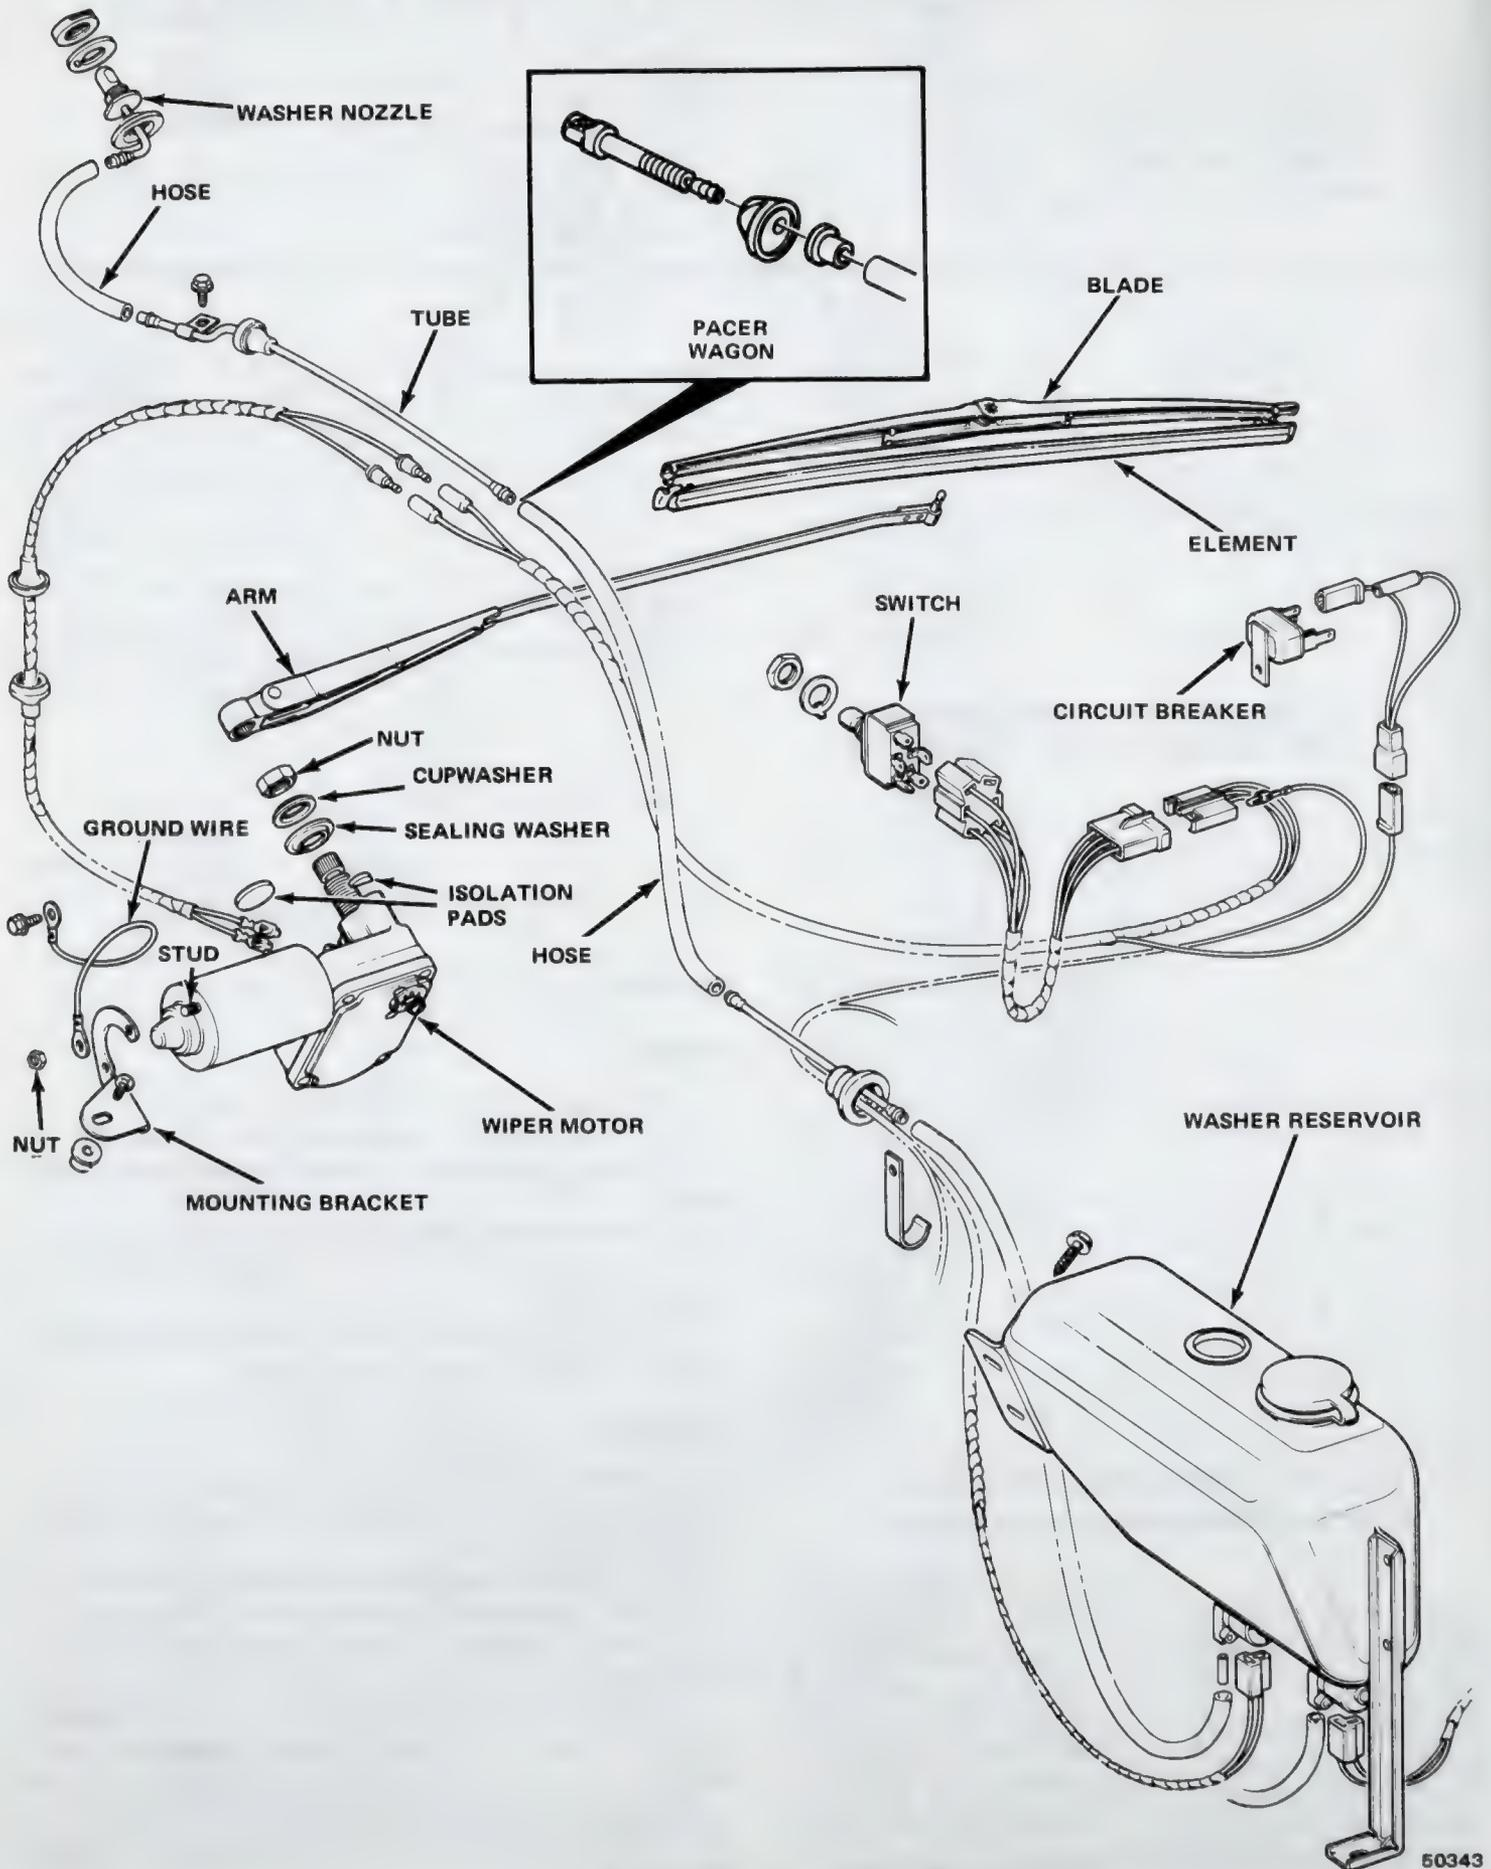

Fig. 3T-39 Liftgate Wiper and Washer
- (6) Install wiper arm and blade according to dimensions shown in figure 3T-35 and 3T-36.
- (7) Install interior trim panel.